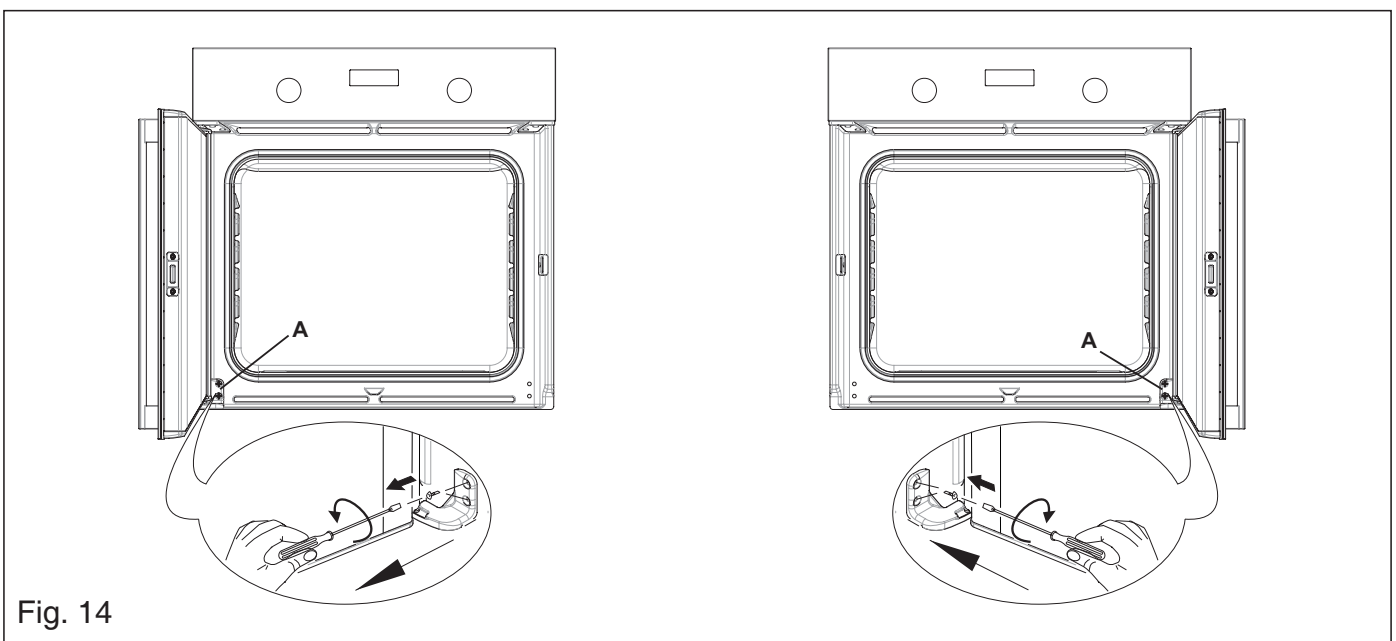

Fig. 14
- 1) Open the oven door and undo the two screws in the block **A** (see figure 14). (N.B.: when block **A** is unscrewed, the bottom of the door is left completely free. Two people are therefore needed for this operation, one to hold the door firmly while the screws are undone).